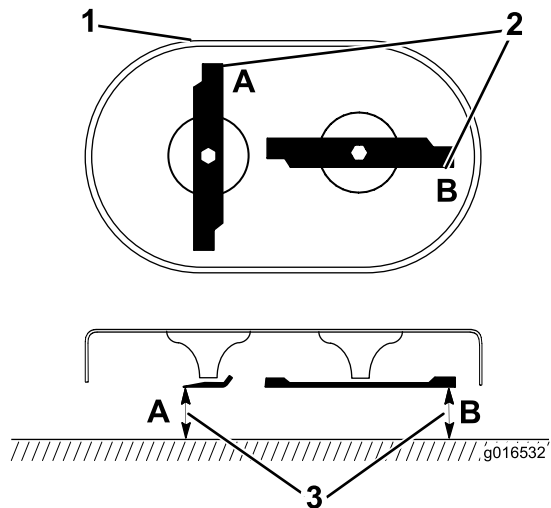

Figure 28
1. Rotate the blades to the position shown in Figure 28.
2. Measure from a level surface to the cutting edges at locations **A** and **B** (Figure 28), and record both dimensions.
3. Rotate the blades so that their opposite ends are at locations **A** and **B** (Figure 28).